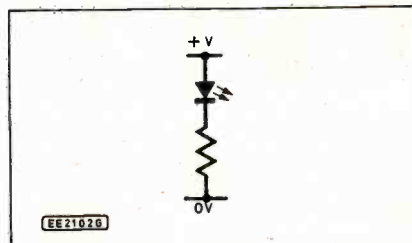

Fig. 10.22. Use of an l.e.d.
L.e.d.s are placed in a circuit in series with a resistor, as shown in Fig. 10.22. The value of the resistor is selected to drop the supply voltage less the forward voltage (two volts) of the l.e.d. across the resistor at about 10mA: